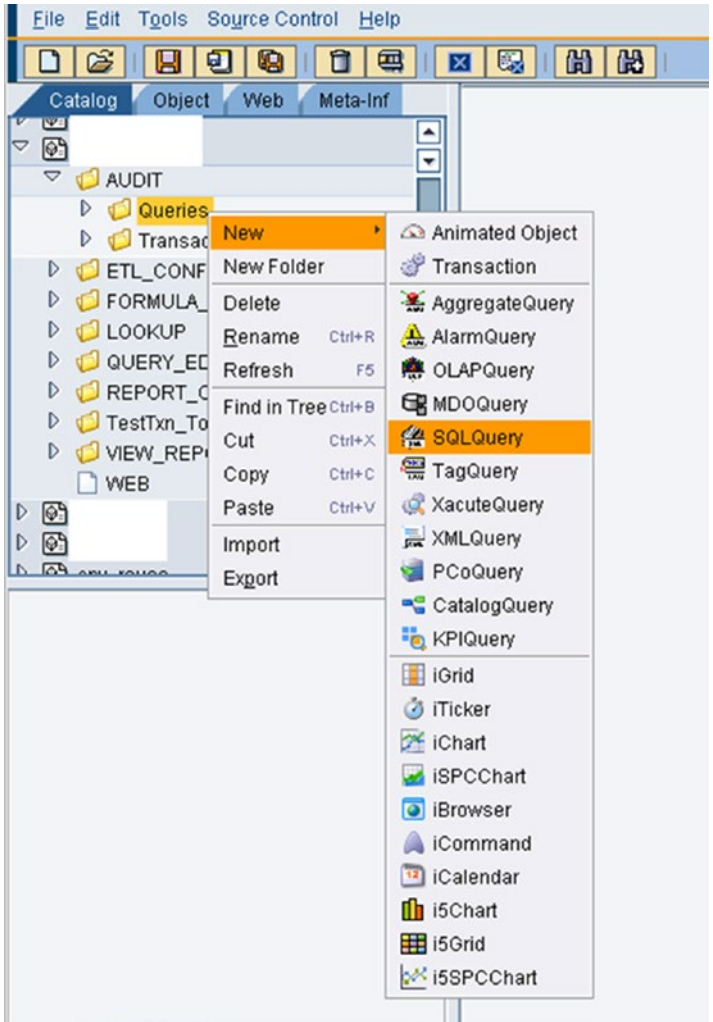

Figure 6-2. *Creating a SQL query template*
1. From the Catalog tab, select Project, then right-click and select New. Choose a query type, such as SQL Query. See Figure 6-2.